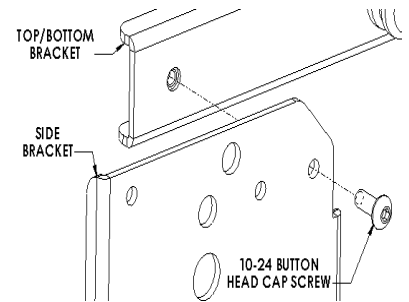
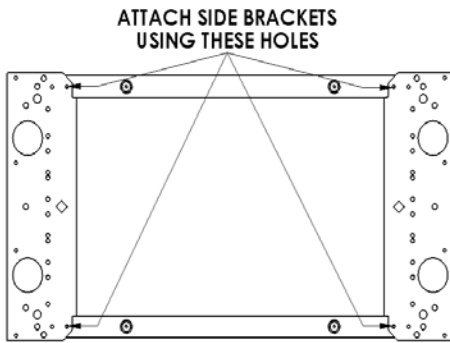
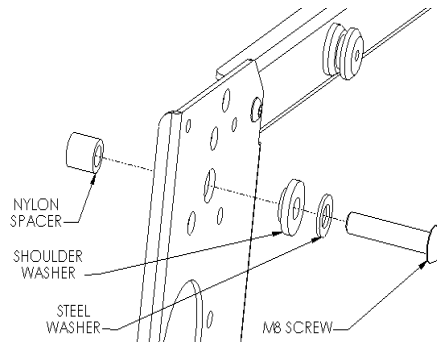
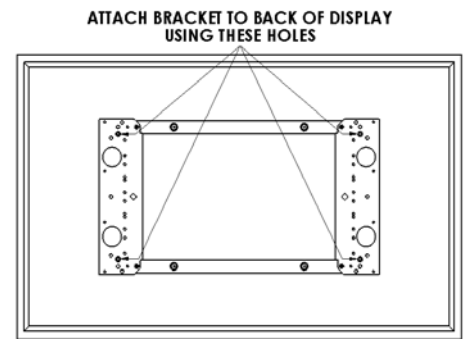

Figure 4
Figure 5
Figure 6
Figure 7
3. Place Nylon spacers on mounting holes on back of screen (see Figure 4 and Figure 5). Attach brackets to display using the M8 screws, shoulder and steel washers (see Figure 6 and Figure 7).